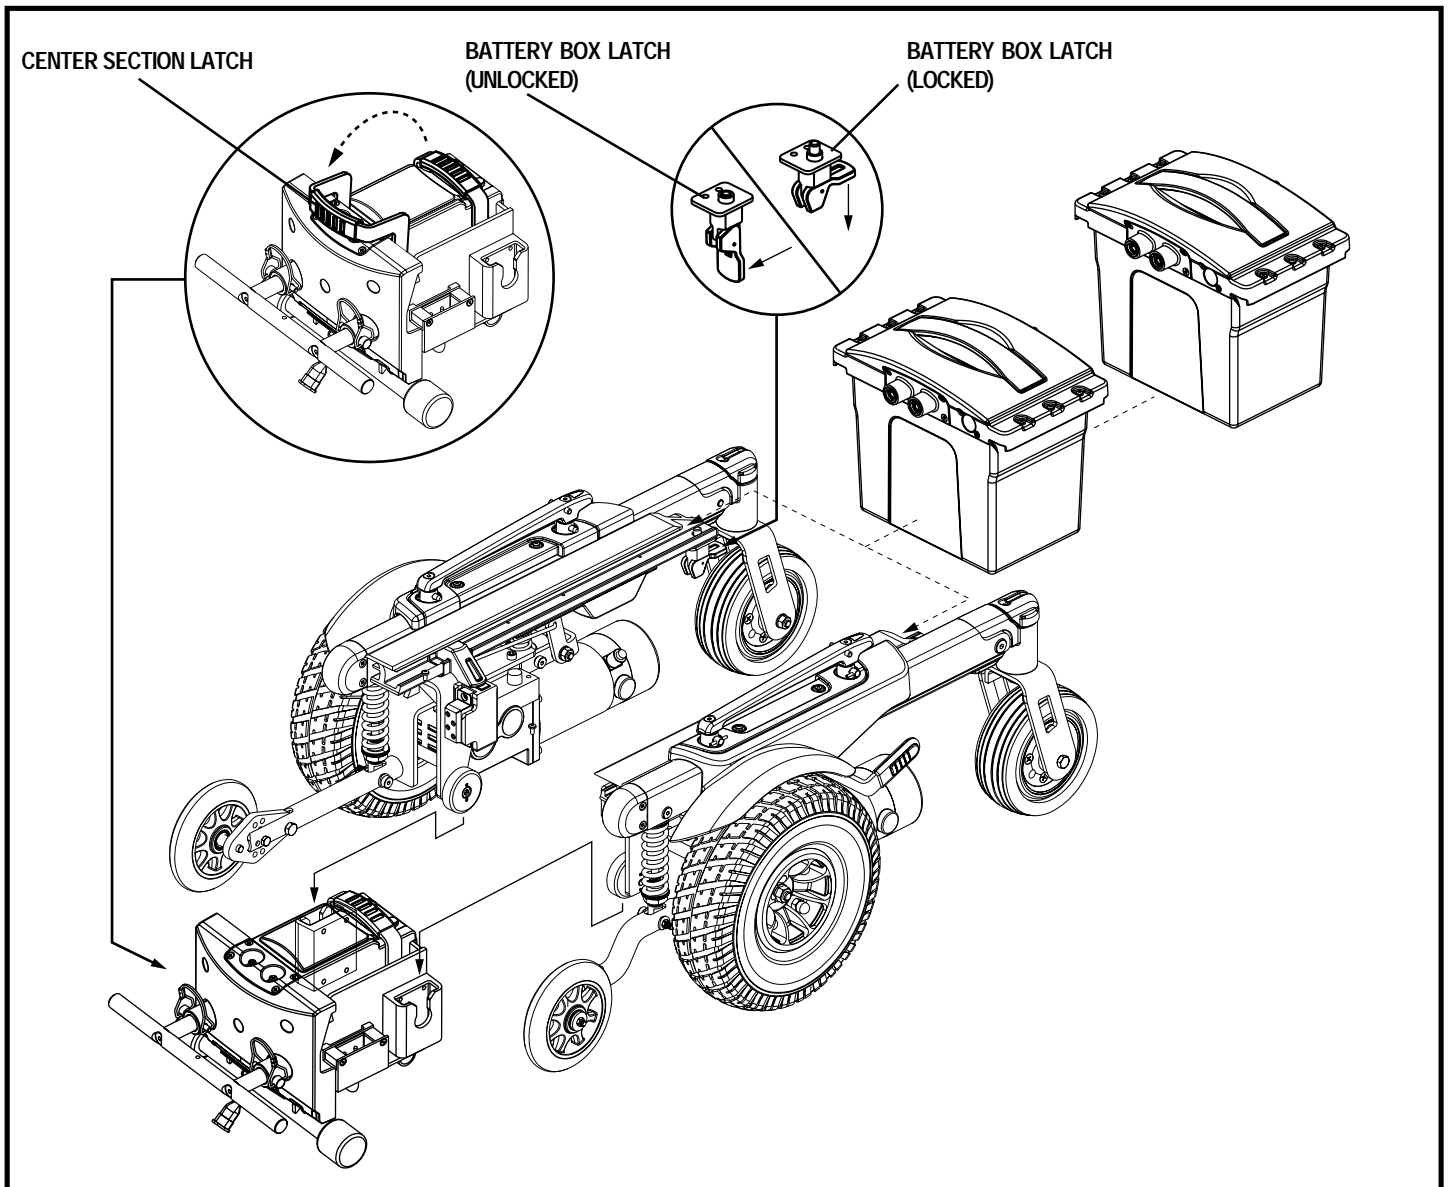

Figure 14. Battery Box Removal and Frame Separation
5. Flip down the battery box latches on each side of the power base. See figure 14.
7. Flip up the center section latch. See figure 14.